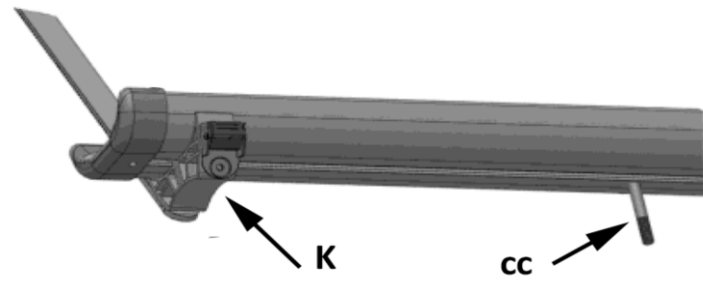

Fig. 6
**Per Fig. 6:** Insert wheel ratchet strap K into the open end of wheel tray G. Insert carriage bolt c-c into the end of tray G. Repeat steps for all trays. When assembling, be sure the ratchet strap is facing the same side as the first one installed.